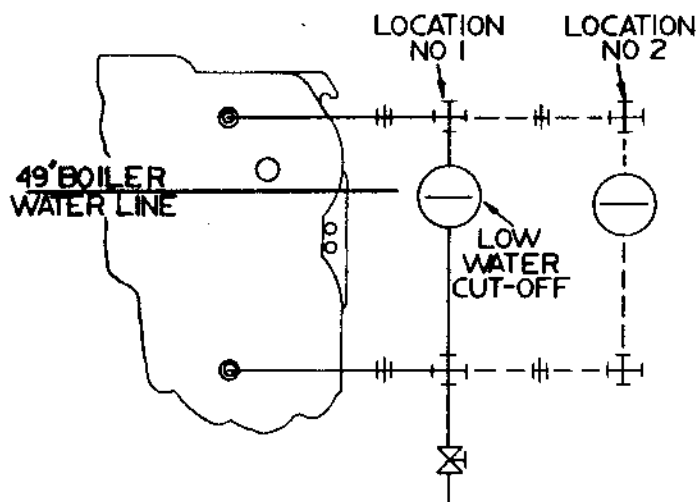

FIGURE 12
2. Install the low water cut-off (see FIGURE 12) in accordance with the CONTROL TAPPING TABLE and FIGURE 6. Where an optional 1" low water cut-off, combination low water cut-off and feeder, or combination low water cut-off and pump control is employed, install the control in accordance with the CONTROL TAPPING TABLE and FIGURE 6 using fittings (not furnished). If a low water cut-off is to be used that is not dimensionally diagrammed in FIGURE 12, locate the cast-on-body mark of the control 2" below the normal water line.
3. Where an optional 1" low water cut-off is employed, install the control in accordance with the CONTROL TAPPING TABLE and FIGURE 6 using fittings (not furnished). Refer to FIGURE 12 for positioning. If a low water cut-off is to be used that is not dimensionally diagrammed in FIGURE 12, refer to the separate manufacturer's instructions for locating the control.